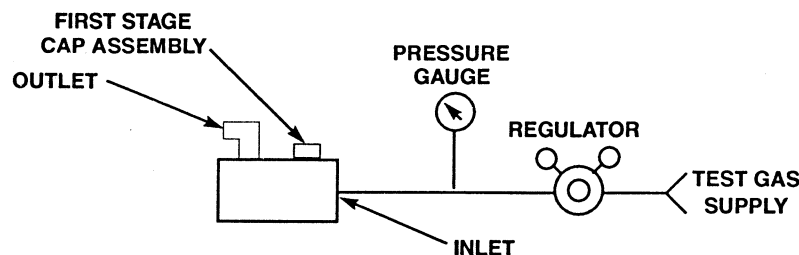

Figure 1 Test Setup - First Stage Leakage
- A typical schematic showing the FCU test setup is presented in Figure 1 of this Service Information Letter. Follow the test procedure outlined below.
- (1) Attach test equipment to the Flow Control Unit as shown in Figure 1 above.
- (2) Install a length of 0.125 inch (3.18 mm) OD elastomer tubing in one of the two smaller holes of the first stage cap assembly; place the opposite end of the tubing in a glass of water.
- (3) Using tape, cover the two remaining holes on the top surface of the first stage cap assembly.
- (4) Cool the FCU to lower the temperature of the unit to approximately 32°F (0°C).
- (5) Apply 500 psig (3.45 MPa) to the INLET port of the FCU.
- (6) Watch the water for signs of bubbles; leakage shall not exceed 0.010 lpm.
- (7) If excessive leakage (greater than 0.010 lpm) is detected, discontinue the application of pressurized oxygen to the FCU, bleed test system pressure and remove the FCU from the test setup.
- (8) Refer to the appropriate CMM (35-21-84 for 803661 Series and 35-21-85 for 803662 & 803663 Series) for removal of the diaphragm assembly. If the diaphragm is damaged, replace the diaphragm.
- (9) If the diaphragm appears to be in good condition, reinstall the diaphragm assembly and associated components into the FCU in accordance to instructions provided in the latest revision of the appropriate CMM.
- (10) Following reassembly of the FCU retest the unit in accordance with steps (1) thru (7) above.